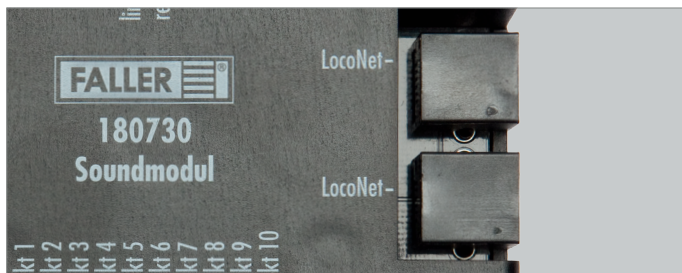

Fig. 5: Connecting LocoNet
- ▶ Insert the LocoNet connector into the socket until it snaps on, see Fig. 5.